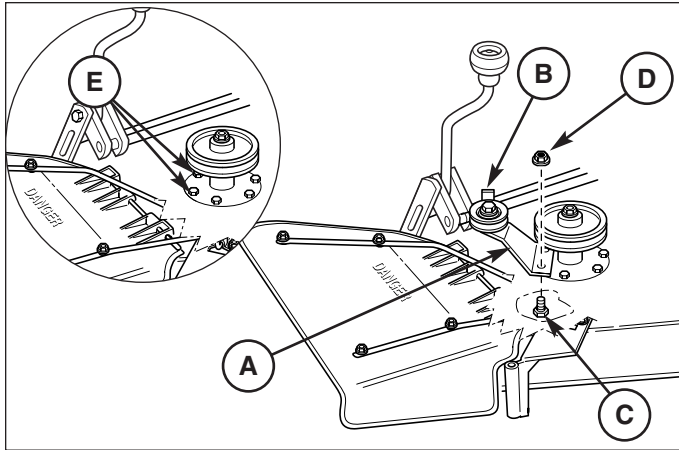

Figure 9. Install Idler Assembly
1. See Figure 9. Remove and discard the two taptite screws from locations (E).
2. Insert two 5/16-18 x 7/8 capscrews (C) through the mower deck and arbor. Tighten the capscrews.
3. Mount the idler pulley assembly (A) to the deck using the two 5/16-18x 7/8 capscrews (C) and 5/16-18 whizlock nuts (D).